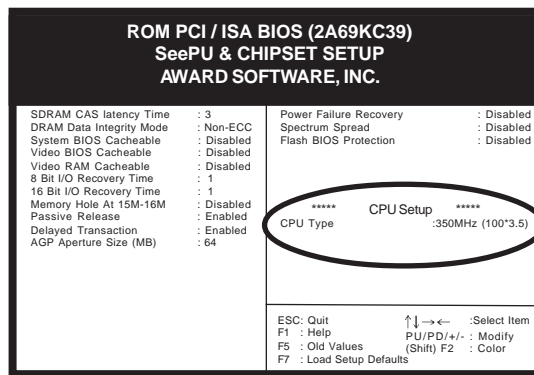

Figure 2-5
2. Move the cursor to SeePU & Chipset Setup menu and press Enter. Find the CPU Setup commands at the right hand part of the BIOS screen (Figure 2-5) Commands for operating the cursor in BIOS are found at the lower right of the BIOS screen.